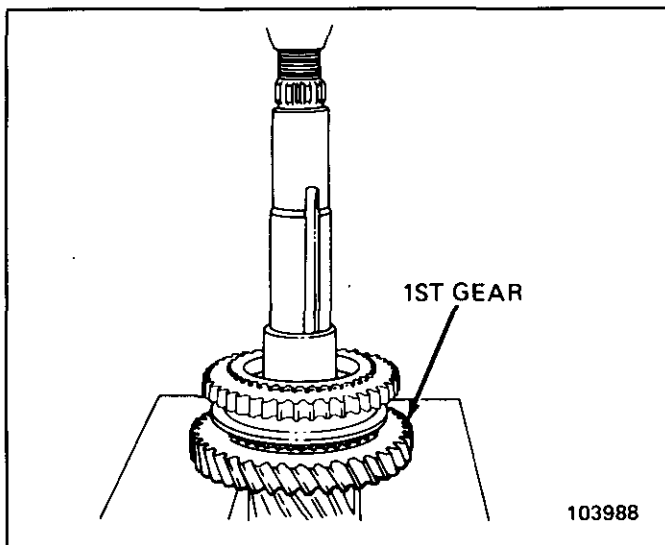

Figure 30 Collar, Reverse and 1st Gear
4. Remove the collar, reverse gear assembly and 1st gear all together by the use of a press (Figure 30).